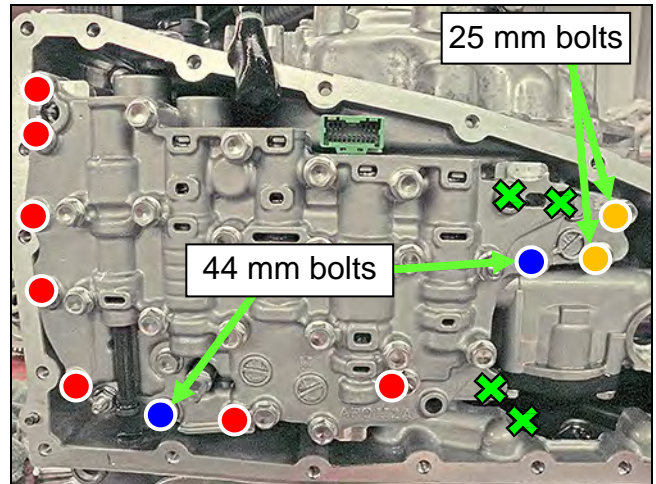
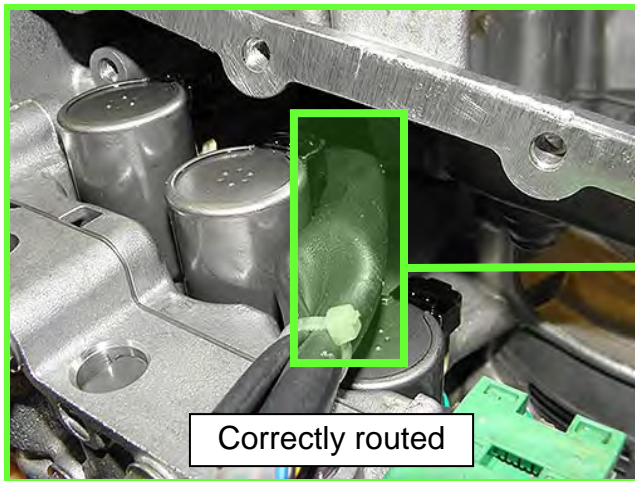

Figure 3A
Figure 4A
2. Install the Control Valve with eleven (11) mounting bolts (Figure 3A).
**IMPORTANT:** Leave Four (4)  bolt holes blank at this step.
**CAUTION:** Make sure the wiring harness does not get pinched (see Figures 4A and 5A for correct routing).